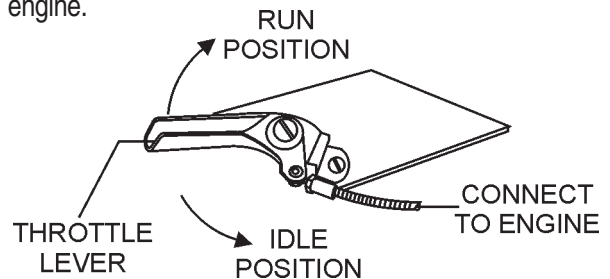

**Figure 9. Cable/Yoke Attachment**
2. Locate the adjustment screw on the underside of the handle tube (Figure 9).